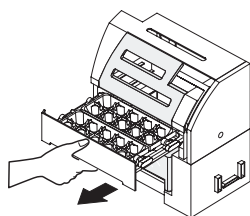

Fig. 12
- Clean the inside and the outside of the tray with a mild soap, rinse with tap water. Fig. 12.